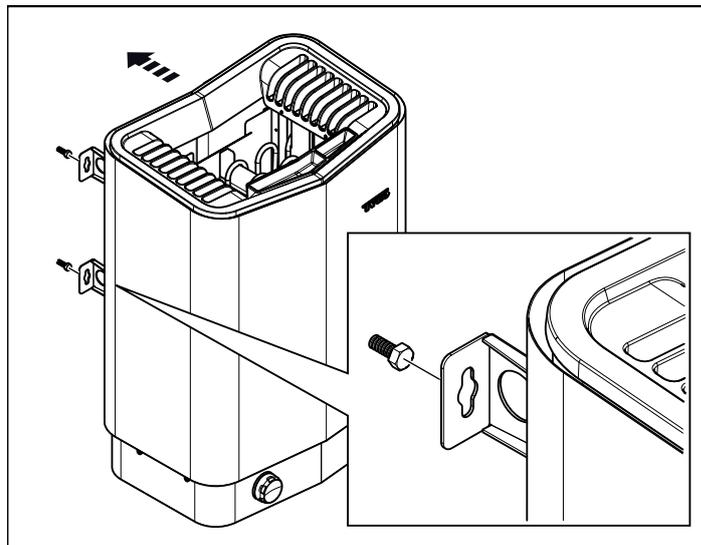

Figure 10: Hang the heater up.
- 8. Hang the heater on the screws se Figure 10, Page 7.